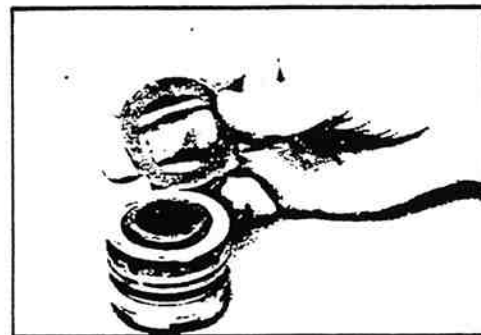

Figure 11-79. Placing Thrust Washer on Valve Sleeve.
28. Remove the compression tool J26742 from the valve sleeve (5b). Apply more grease to the valve sleeve seals, and grease the thrust washer face on the end of the valve sleeve without the drive slots. Place the other thrust washer (22) onto the valve sleeve end without the drive slots (figure 11-79).